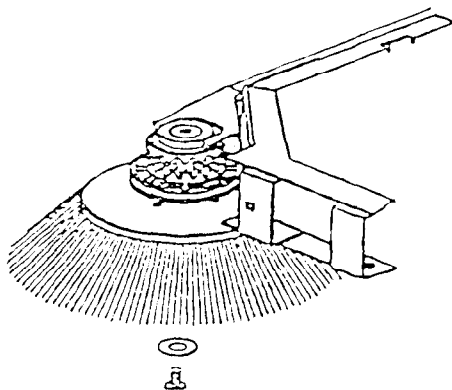

FIG. 1.
1. Mounting the side brush. (Figure 1)